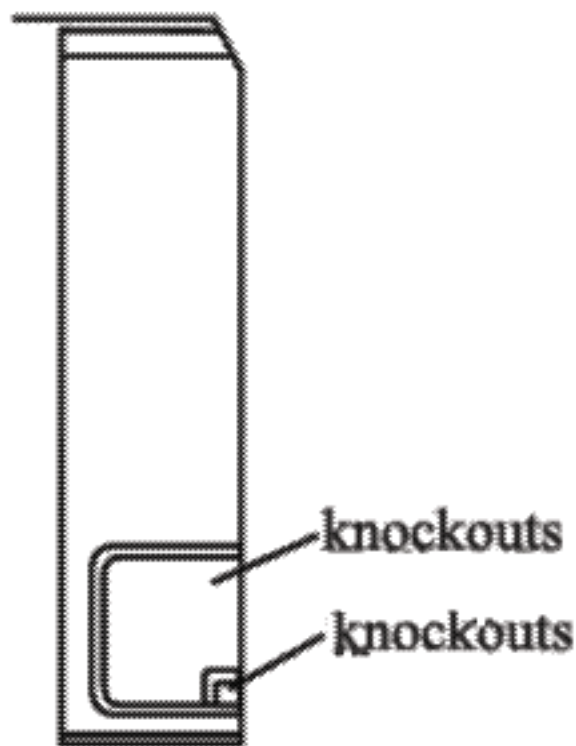
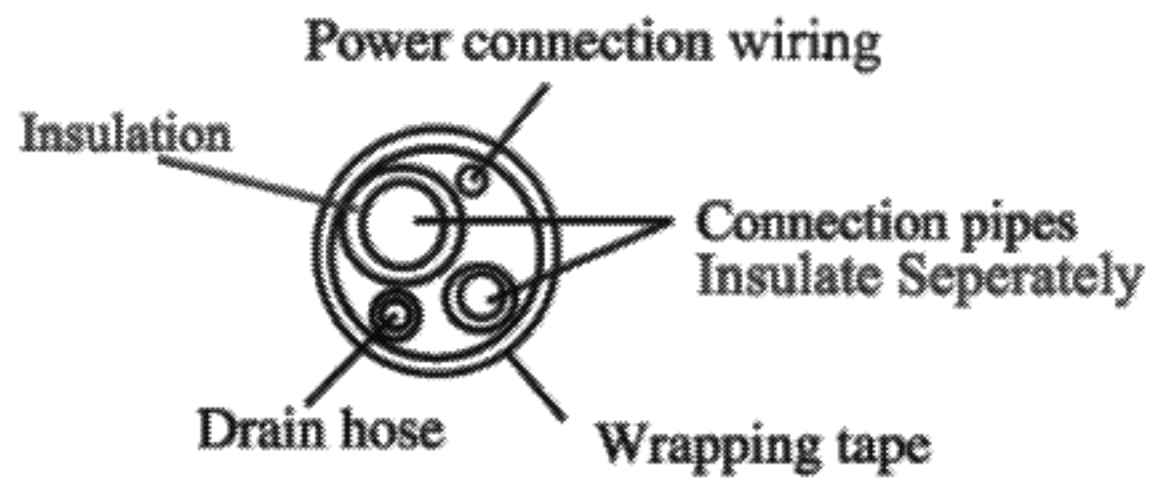

Fig.5
Fig.6
1. When routing the piping and wiring from the left or right side of the indoor unit, cut off the knockouts from the chassis in necessary (shown in Fig. 5).
- ① Cut off knockout 1 when only power cord is routed.
- ② Cut off knockouts 1 and 2 when connect pipe and power cord are routed.
2. Wrap the piping and wiring and pull them through the cut-off knockouts hole (shown in Fig. 6).